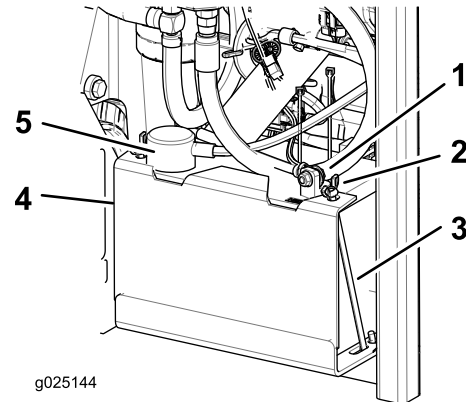

Figure 40
3. First disconnect the negative battery cable (black) from the negative (black) battery terminal (Figure 40).
4. Slide the red terminal boot off the positive (red) battery terminal and remove the positive (red) battery cable (Figure 40).
5. Remove the wing nuts securing the J-hooks (Figure 40).
6. Remove the clamp (Figure 40).
1. Position battery in the tray with the terminal posts opposite from the hydraulic tank (Figure 40).
4. Secure the cables with 2 bolts, 2 washers, and 2 locknuts (Figure 40).
6. Install the clamp and secure it with the wing nuts and J-hooks (Figure 40).